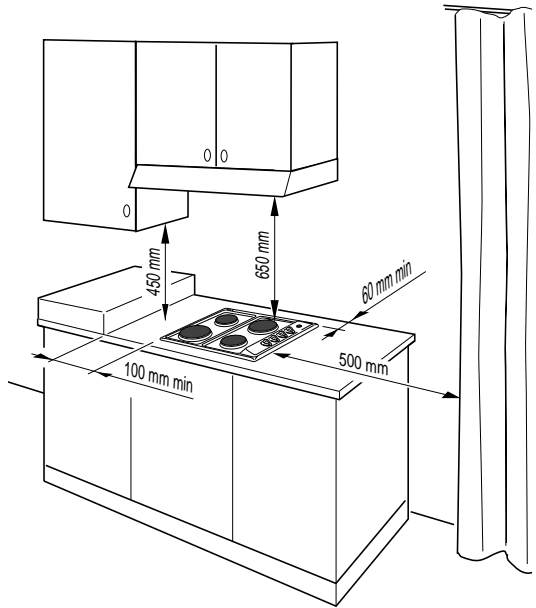

Fig. 4.2
- ✓ there must be a distance of at least 650 mm between the hob and any wall cupboard or extractor hood positioned immediately above (see fig. 4.2).